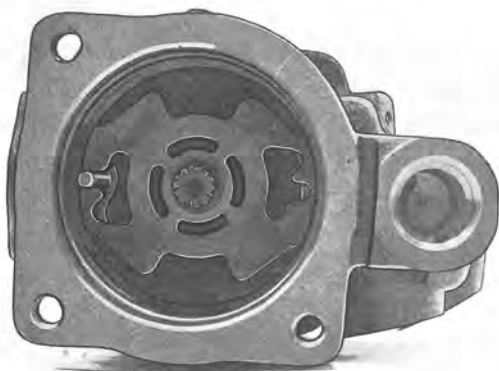

Fig. 6-92. Inner plate installed
2. Apply universal grease between the sealing ring (8) lips and press it in with drift 2997.
3. Place the O-ring (12) in position in the housing's inner groove.
4. If the bearing (6) was removed, press the shaft into the bearing. Fit the circlip (7) in its groove.
5. Fit the shaft with bearing. Fit the circlip (5) in its groove.
6. Place the O-ring (13) in its groove on the plate (14). Fit the plate according to Fig. 6-92.